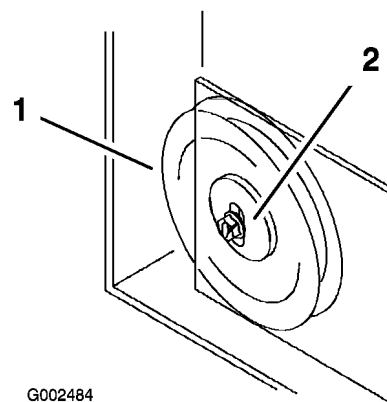

Figure 58
11. If the mower idler plate contacts the end of the adjustment slot and more belt tension is required, a small change to the right side fixed idler can create more belt tension adjustment (Figure 58).